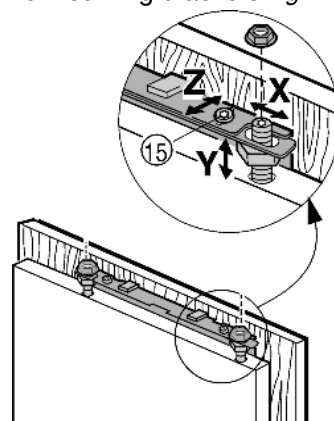

Fig. 22
- Align the unit door in depth Z : loosen the upper screws Fig. 22 (15), lower screws Fig. 23 (24), then move the door.